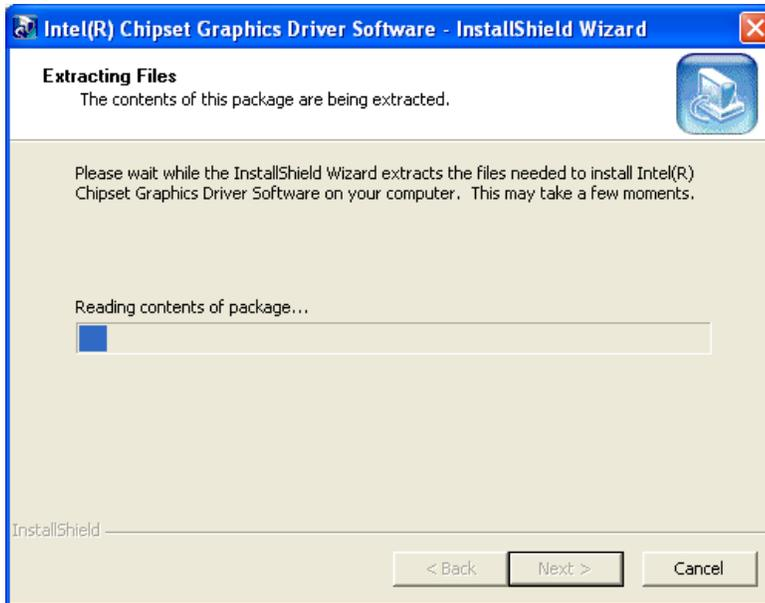

Figure 7-8: Graphics Driver Setup Files Extracted
Step 6: The installation files are extracted. See Figure 7-8.